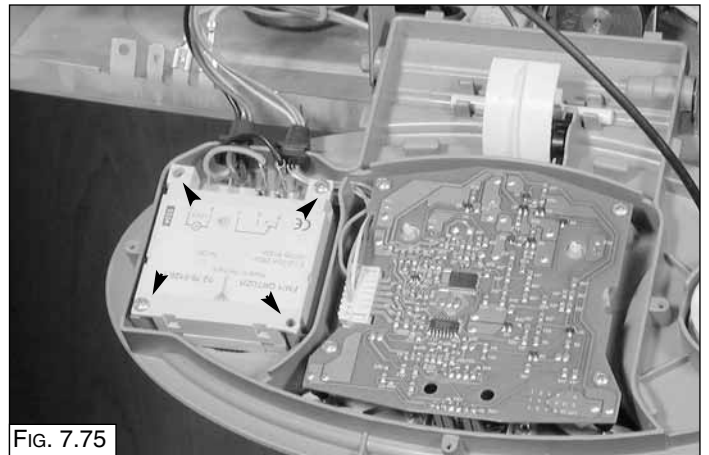

FIG. 7.75
2. Unplug the electrical connection from the time clock and unscrew the four screws (Fig. 7.75);